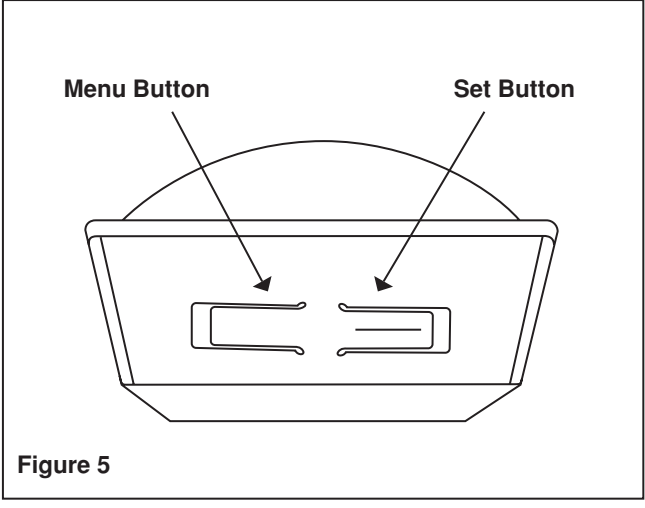

Figure 5
2. Click the Menu button on the bottom of the sensor once. This sends a associate/disassociate radio telegram (see FIGURE 5). **NOTE:** The button interface on the sensor is used for associating and testing only. The occupancy timer settings are configured on the transceiver to which the sensor is associated.